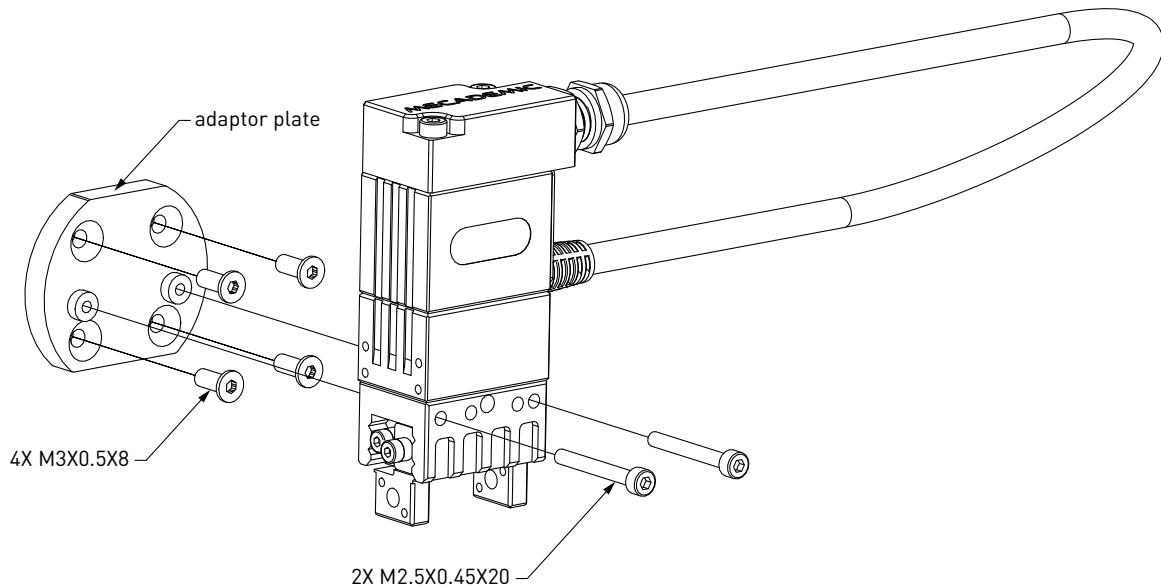

Figure 3: Mounting the MEGP 25 gripper to the flange of the Meca500
The MEGP 25 electric gripper is designed and supplied with an assembly kit for only one type of installation (Figs. 3 and 4). If you want to mount the gripper on the flange of the Meca500 in a different configuration, you need to design and machine your own adaptor plate. Note, however, that if you use a different adaptor plate or if you do not install your gripper in exactly the same manner as shown in Figs. 3 and 4, it is quite possible that the gripper cable will be too short. Therefore, an installation other than the one shown here may limit the range of motion of joint 6 and may result in damage to the gripper and/or the robot.
To install the gripper, switch off the robot, refer to Figs. 3 and 4, and follow these steps:
4. Attach the gripper exactly as shown in Figs. 3 and 4c using the two M2.5X0.45X20 socket head screws supplied.